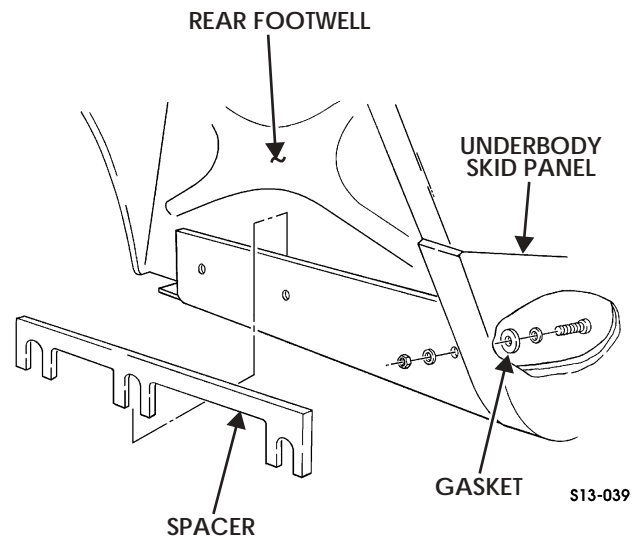

Figure 13-42: Rear Footwell
5. Remove three nuts, washers, capscrews, washers, and gaskets securing spacer (if present) and skid panel to rear footwell (Figure 13-42).
2. Secure skid panel to rear footwell with three gaskets, washers, capscrews, washers, and nuts. Do not tighten nuts (Figure 13-42).